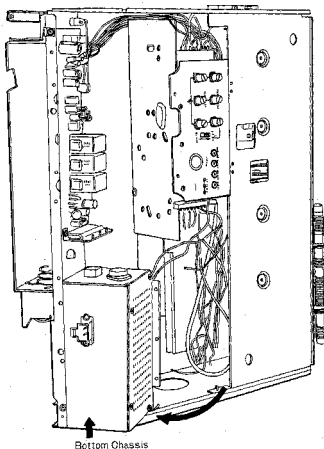

Fig. 29
5. Open bottom chassis in the direction of the arrow, as shown in fig. 29.